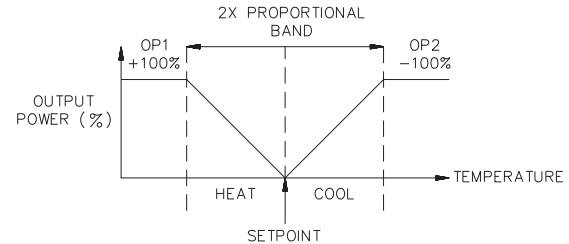

Figure 18, Heat/Cool Operation (db=0)
**Example:** If 10 KW of heating and 5 KW of cooling is available, initially set the cooling gain to (2.0). Figure 18, Heat/Cool Operation illustrates the effect of different gains.